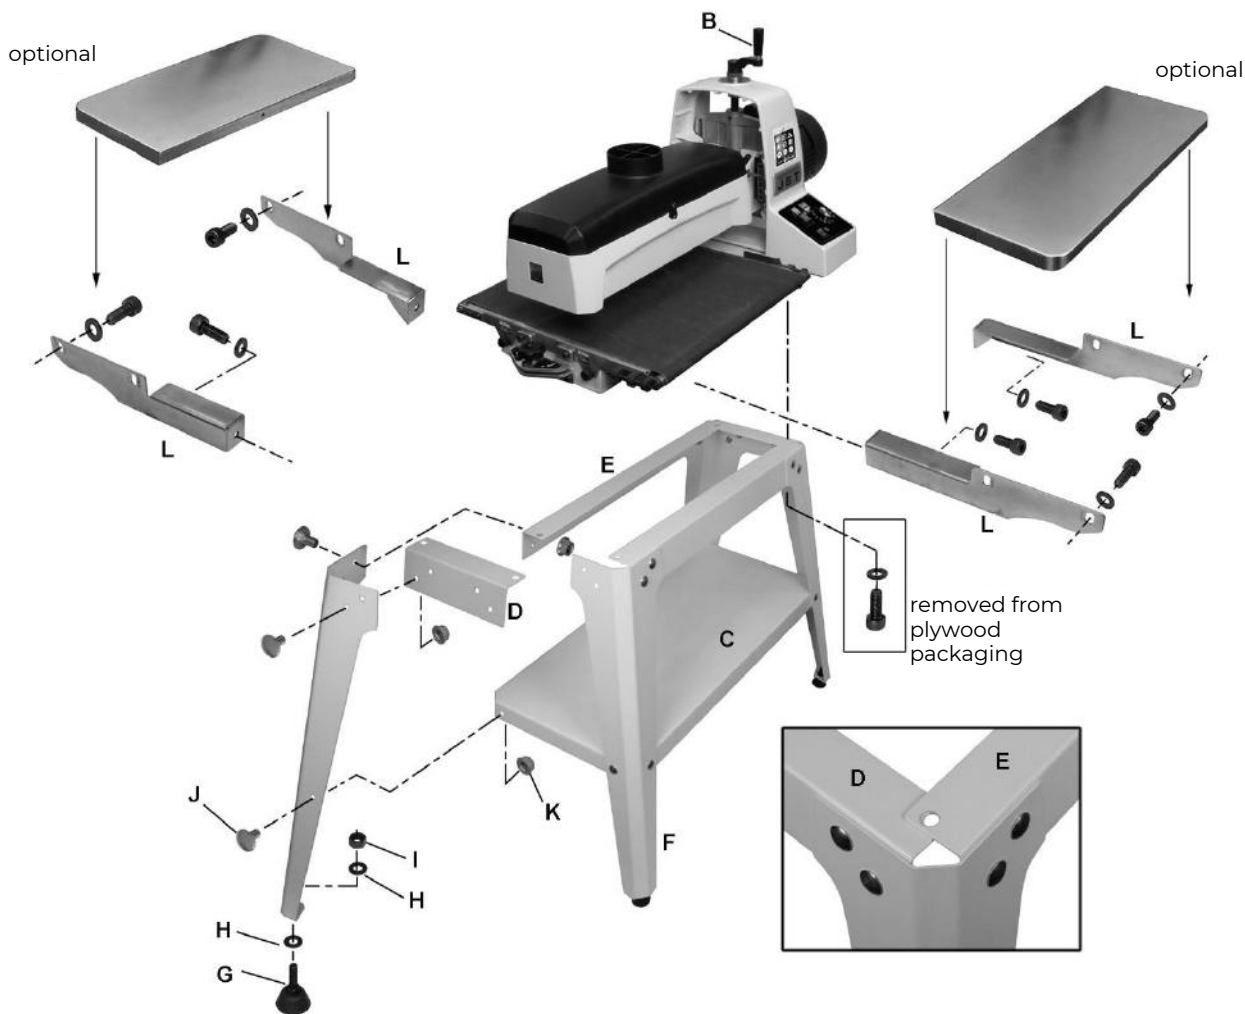

Figure 6-3: Assembly
(Refer to Figure 6-3. If further clarification is needed, consult parts breakdown at back of this manual.)
See inset, Figure 6-3.
1. Install infeed and outfeed brackets (L, Figure 6-3) to the threaded holes in sander base with M8x16 socket head cap screws and flat washers. Make sure left and right brackets are oriented as shown. The brackets should be flush against the base.